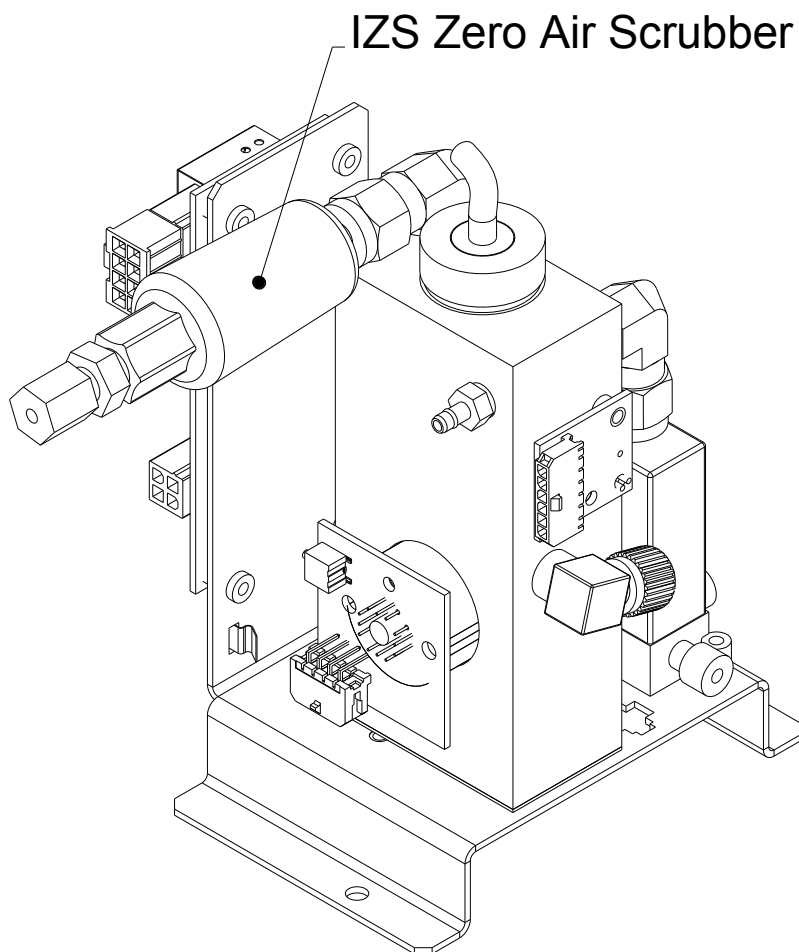

Figure 11-2 Replacing the IZS Zero Air Scrubber
3. Disconnect the white nylon ¼"-1/8" fitting from the Zero Air Scrubber (See Figure 11-2).